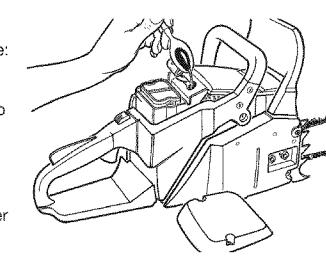

Fig. 55
- Pour 1 teaspoon or clean 2-cycle oil into the combustion chamber (Fig. 55). Pull the starter rope slowly several times to coat the internal components.